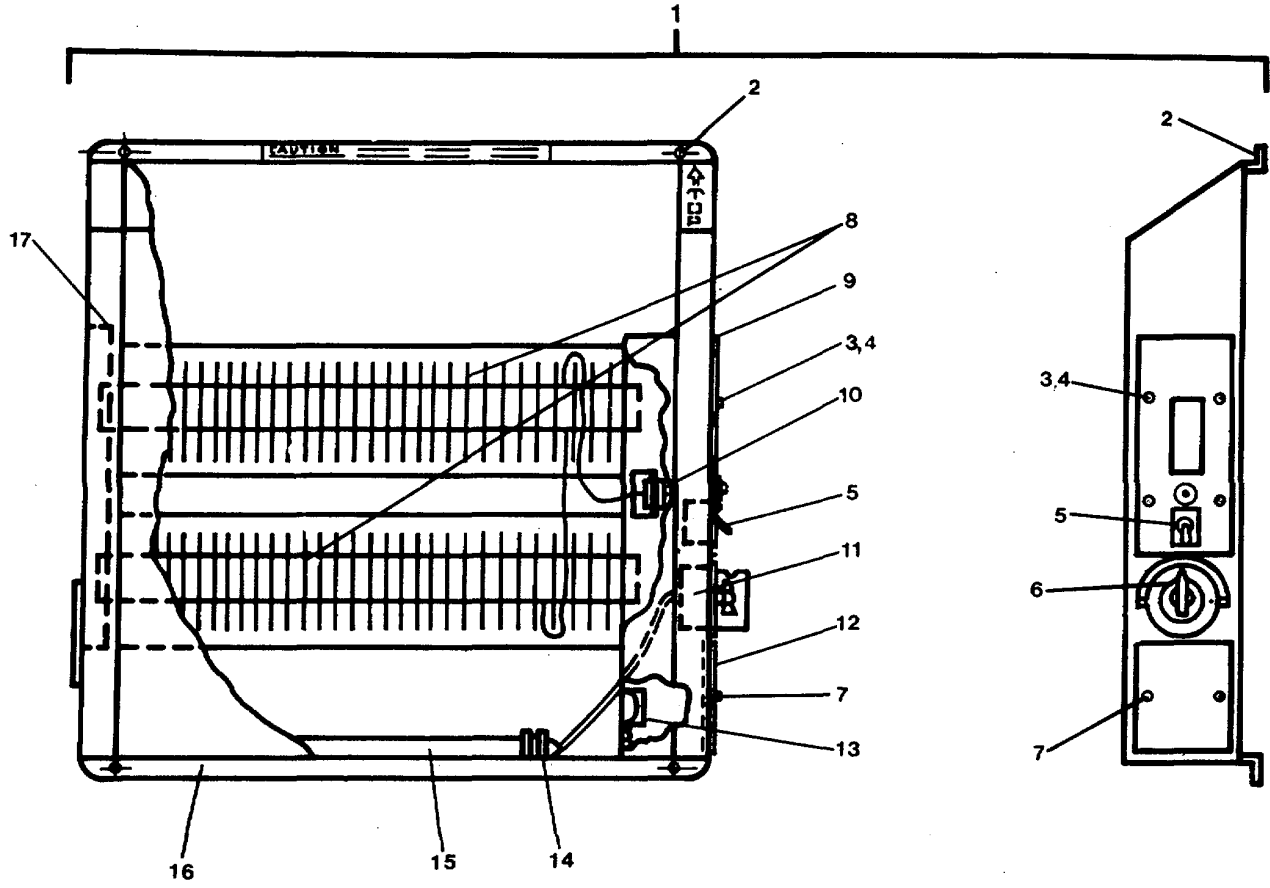

Figure 3-7. Convection Heater (CH #1 thru #4).
- (1) Turn electrical power to ON.
- (2) Start and run heater to check operation.
- (3) Remove "Out of Service" tag from circuit.
**3-16. Repair Heater, Space, Electric (Convection Heaters #1, #2, #3, and #4). (FIGURE 3-7)**